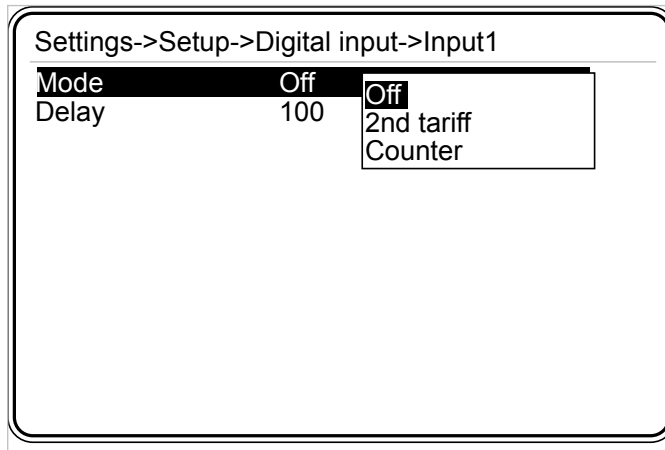

Fig. 3-30 Mode Selection
Mode options are as seen below (Fig. 3-30). Press up and down keys to scroll inside options. Press OK key to select the desired option.
- Assume that for digital input 1, 'Counter' is selected as the mode setting. Under this condition, each time DI1 and GND pins are short-circuited, "Meters->Digital input->Digital input1 counter" counts (Fig. 3-30).